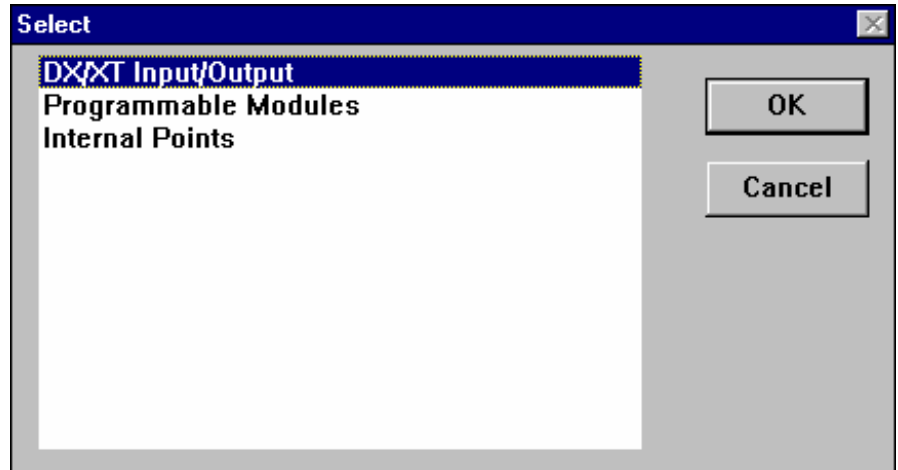

Figure 13-3: Select Point Category Dialog Box
3. Type a Tag Name or an asterisk (*) to select a Tag Name from a list. Click OK and a Select point category dialog box appears (Figure 13-3).